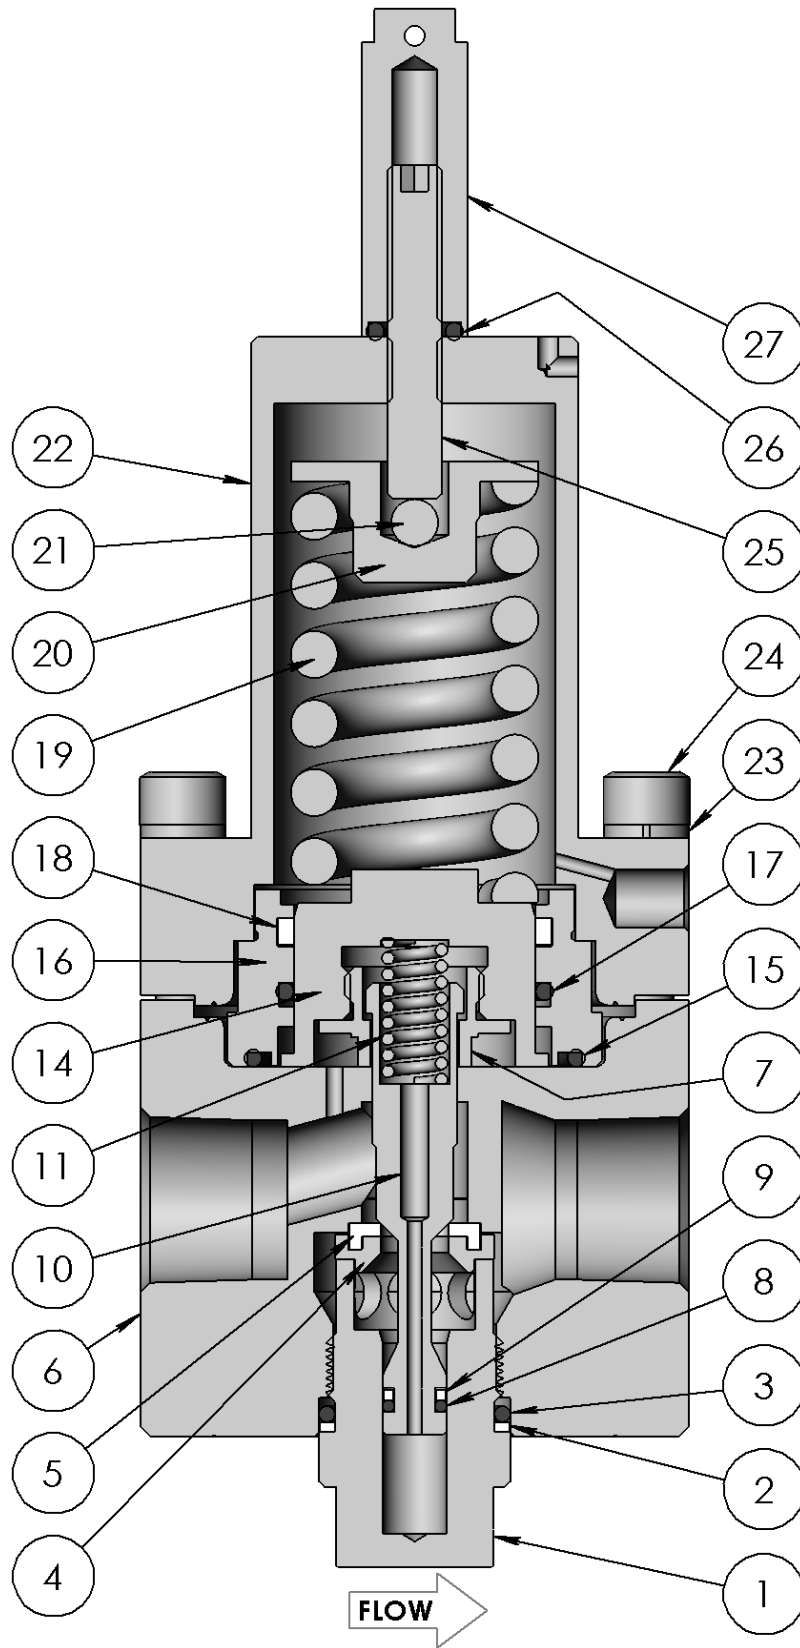
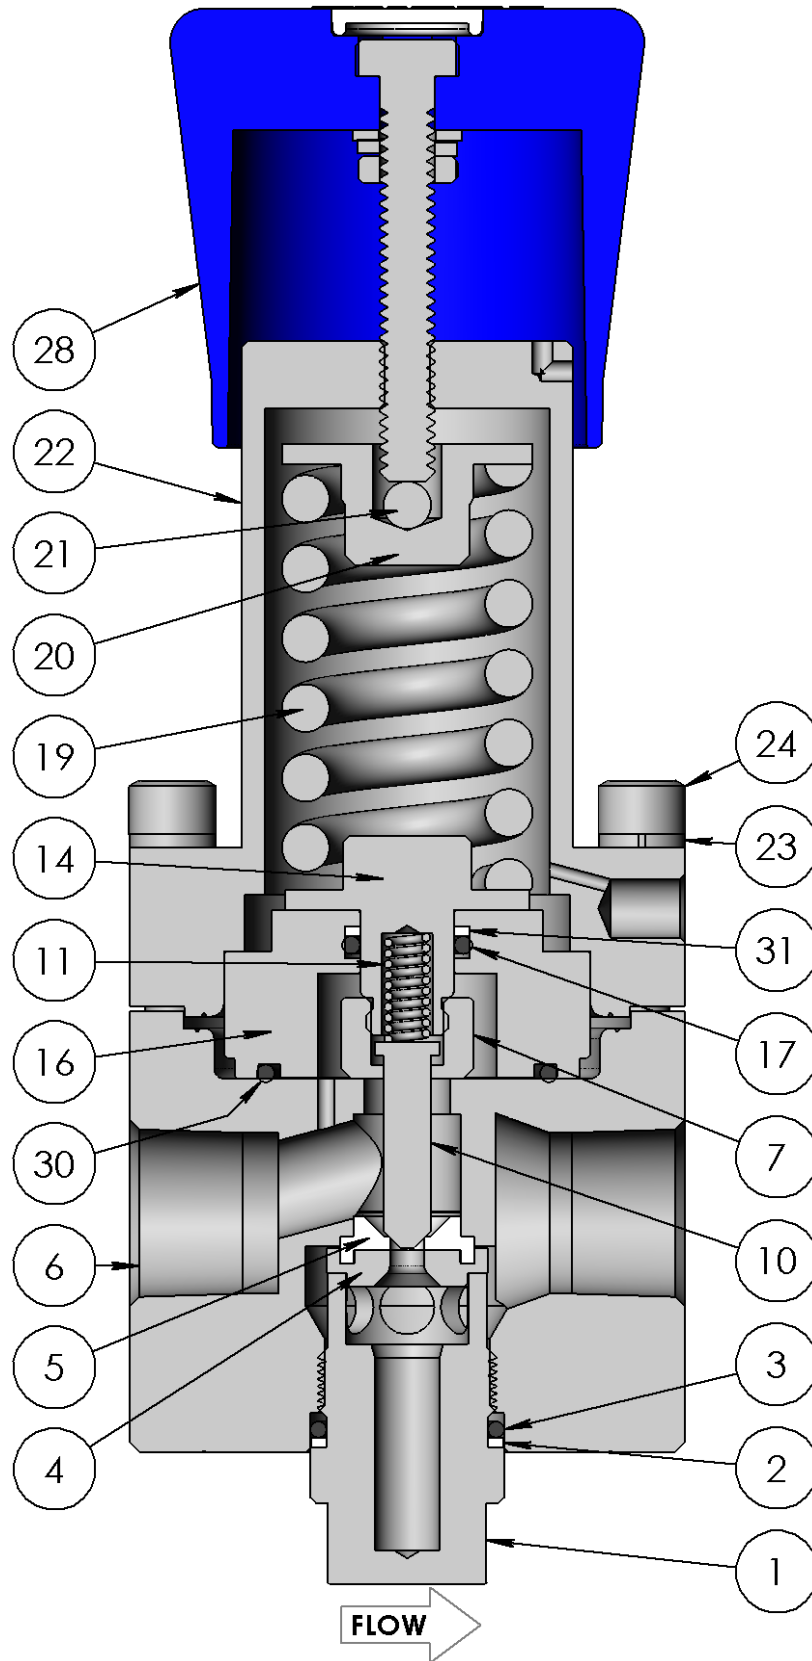

Fig 3
Fig 4
1. Follow steps 1 and 2 of the BS(H) series diaphragm sensing reassembly procedure.
2. If present, fit the poppet O-ring (8) and backup ring (9) onto the poppet (10). Ensure their orientation is correct. Reference Fig 3.
3. Fit the piston O-ring (17), piston plate O-ring (15) and, if present, piston backup ring (31) and piston guide ring (18) into the piston plate (16).
4. Insert the poppet (10) and overtravel spring (11) through the piston screw (7). Lightly lubricate the piston screw threads (7) with Krytox GPL 207 then fit into/onto the piston (14). Torque to 13 lbf·ft (18 N·m).
Note if the regulator is of the design shown in Fig 4 the piston (14) needs to be inserted through the piston plate (16) before fitting the piston screw (7). Lightly lubricate the piston O-ring (17) with Molykote 55 before inserting the piston (14).
5. Lightly lubricate the piston O-ring (17) with Molykote 55 then insert the piston (14) into the piston plate (16).
6. Follow steps 4 through 8 of the BS(H) series diaphragm sensing reassembly procedure.